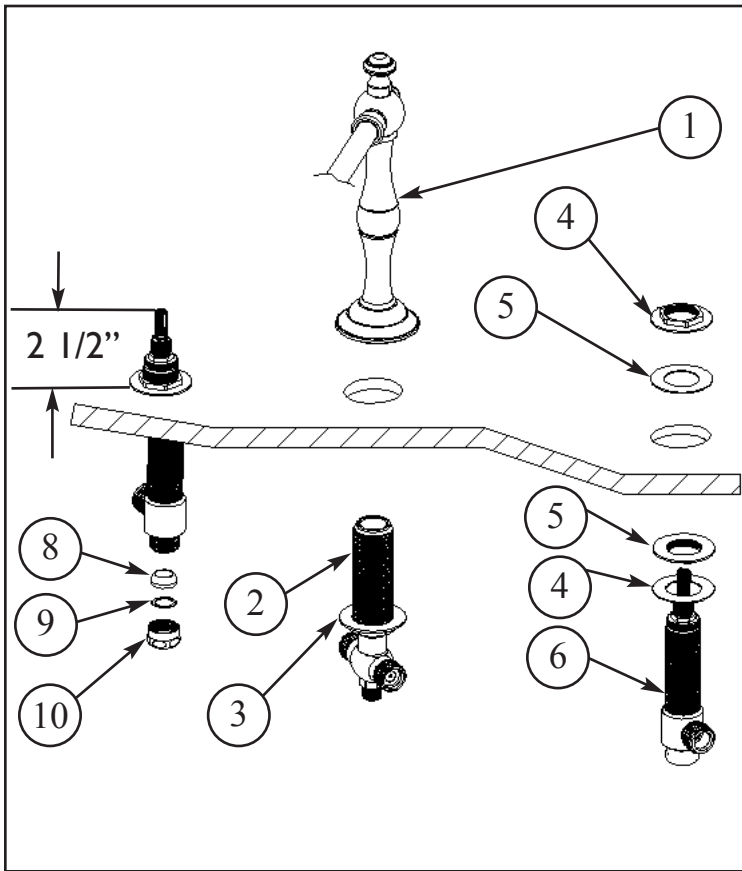

Figure 1
- Place the DIVERTER TEE (2) through sink hole of mounting surface. Thread DIVERTER TEE (2) into SPOUT (1). Secure SPOUT (1) into place with FLANGE NUT (3). See Figure 1.
- Place NUT (4) and WASHER (5) on VALVE BODY (6). Insert VALVE BODY(6), (blue = cold and red = hot), through hole in the mounting surface. Place WASHER (5) and NUT (4) onto top portion of VALVE (6). Adjust VALVE (6) to proper height of 2 1/2". See Figure 1.
- Attach hot/cold water supply hoses (not included) to appropriate valve utilizing CONE WASHER (8), FRIC-TION RING(9) and NUT (10) supplied. See Figure 1.